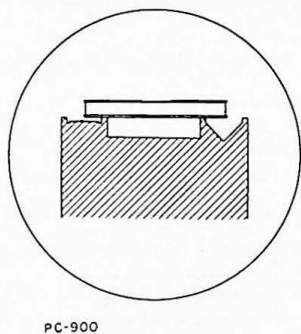

Figure 13A
1. Place the leveling instrument on the top finished surfaces of the bed (Figure 13A).